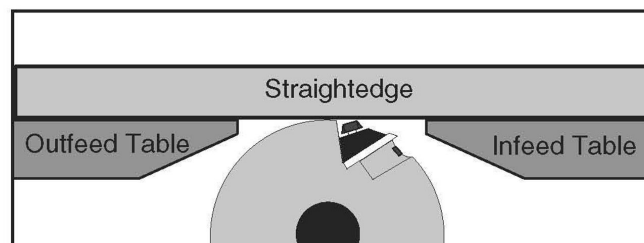

Figure 35. Checking table parallelism.
1. Place a straightedge on top of outfeed table (see **Figure 35**) and use infeed table adjustment knob to raise or lower table until table contact is even along straightedge.